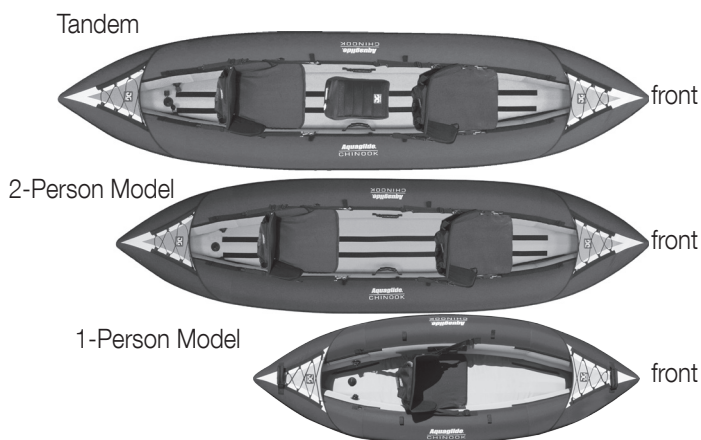

Figure 1: CHINOOK™ XP - Typical Seat Plan
6) Next position the seat(s) in the cockpit. Seat(s) connect to the floor with Velcro. Seats should be placed so as to evenly balance the boat when in the water. A solo paddler should be slightly aft of the boat's center. With two paddlers, the heavier one should sit toward the rear. See Figure 1 for details.